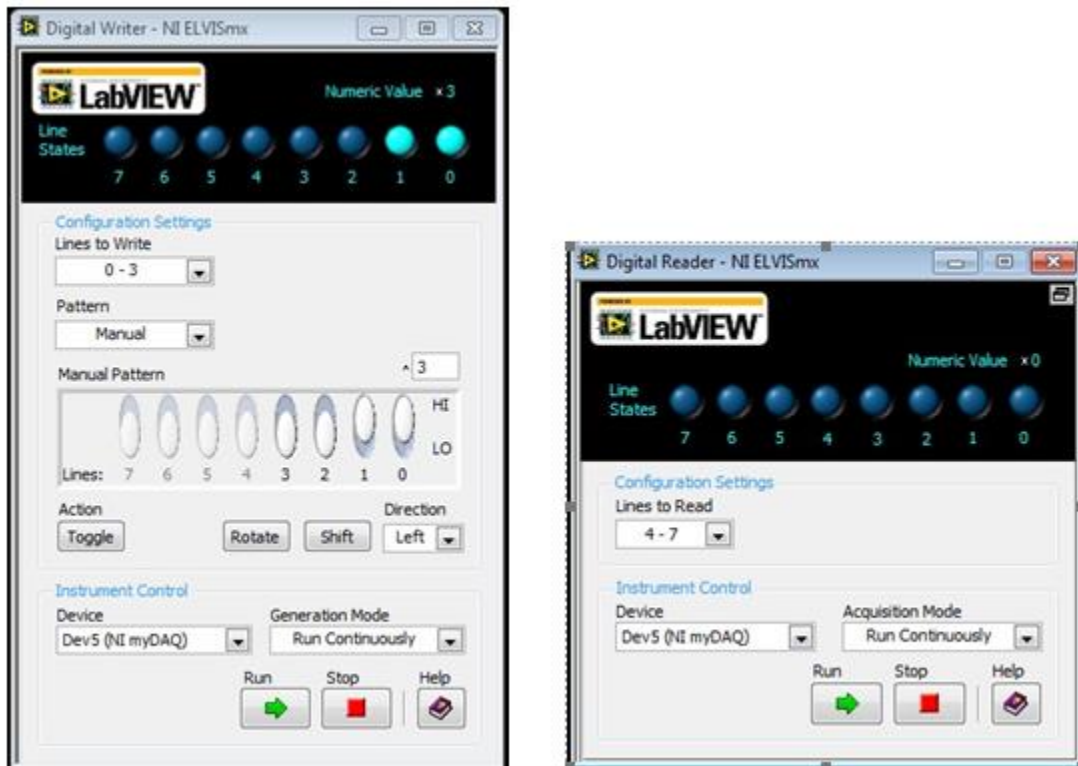

Figure 5. Digital Writer (left) and Digital Reader (right)
- Start the NI ELVIS Instrument Launcher software. Click on the DigIn and DigOut icons to open the Digital Writer and Digital Reader. The panels will look like those in Figure 5 below. The digital IO lines can be configured as read lines (outputs from your circuit to be read by the myDAQ) or write (outputs from the myDAQ to your circuit). Select lines 0-3 as write lines and lines 4-7 as read lines.